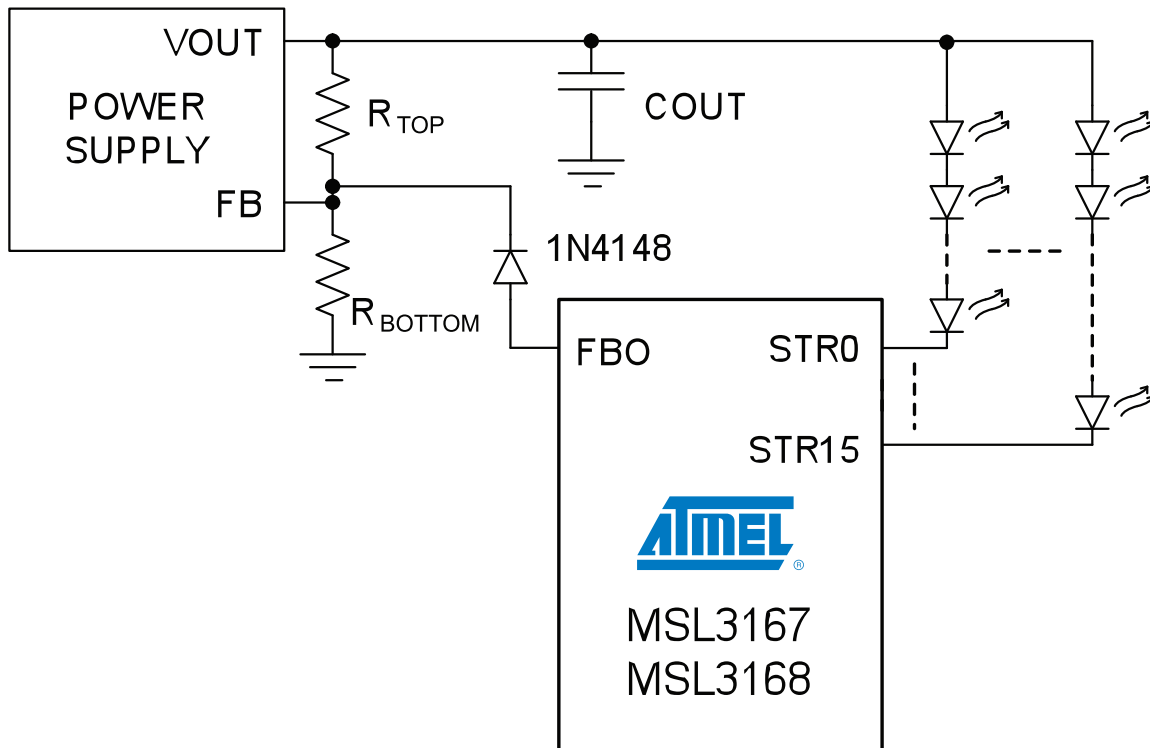

Figure 5. Atmel LED Drivers-MSL3167/8 FBO Connection to Power Supply Voltage Divider
The Efficiency Optimizer (EO) improves power efficiency by injecting a current of between 0 and 255 μ A into the voltage divider of the external power supply (Figure 5), dynamically adjusting the power supply's output to the minimum voltage required by the LED strings. This ensures that there is sufficient voltage available for LED current control and good power supply noise rejection, while minimizing power dissipation. The power supply must have a nominal feedback voltage of no more than 3.5V, and the voltage setting resistor divider must be accessible (sizing the resistors is covered in the next section).
The MSL3167/8 are designed to control LED string power supplies that use a voltage divider (R_{TOP} and R_{BOTTOM} in Figure 5) to set output voltage, and whose regulation feedback voltage is not more than 3.5V. To select the resistors, first determine $V_{OUT(MIN)}$ and $V_{OUT(MAX)}$, the minimum and maximum string supply voltage limits, using:
where V_{FB} is the regulation feedback voltage of the power supply. Place a diode (1N4148 or similar) between FBO and the supply's feedback node to protect the MSL3167/8 against current flow into FBO (Figure 5).